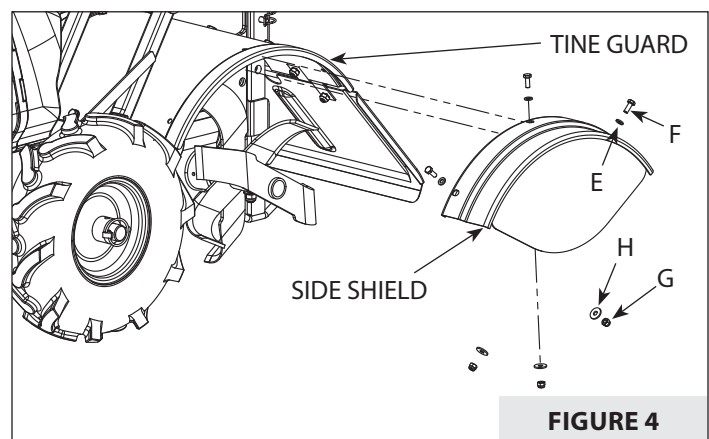

FIGURE 4
11. Locate the side shields and place one up against the side of the tine guard and hold in place. **SEE FIGURE 4.**
12. Place one (E) small M6 flat washer onto one (F) M6 x 16 mm bolt. Repeat this process for all three (F) M6 x 16 mm bolts. Insert the three bolts into the three holes of the tine guard, making sure they pass through the side shield as well. Place a (H) large M6 flat washer and a (G) M6 nylock nut onto the bottom of each of the bolt/washer combinations and tighten all with a wrench/socket.